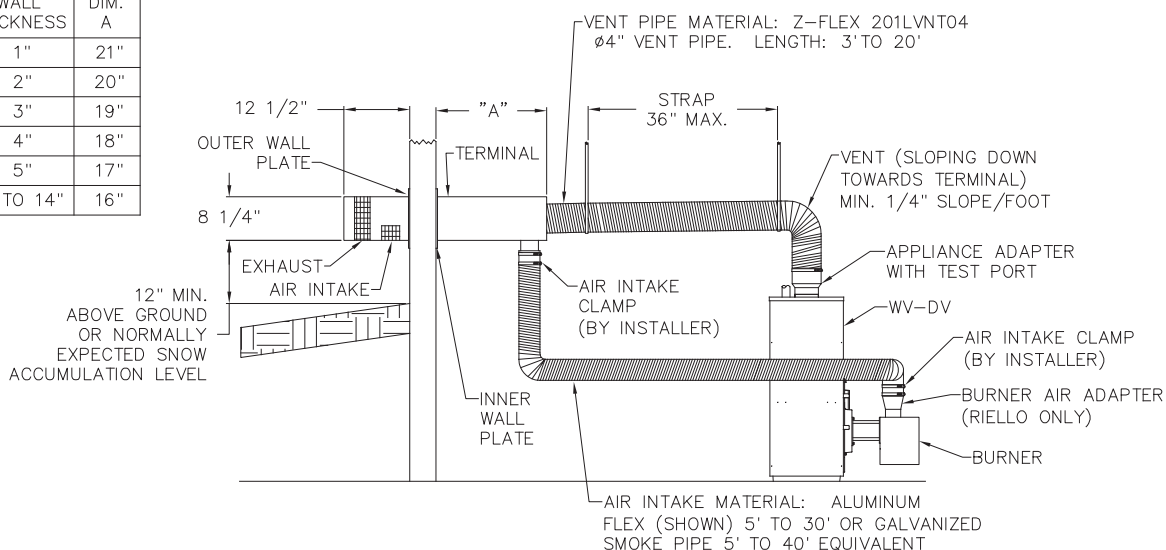

Figure 4.1: Venting
1. Prepare sketches and notes of the layout of the installation. Include boiler location, venting system, existing piping and wiring. Show existing equipment that may interfere with installation of new equipment. See Section 4-A. "Vent System Installation," Page 7, and Figure 4.1.
- a. Vent length must be between 3' and 20' long. See paragraph 4.A.3 and Figure 4.1 for air intake requirements.
- c. Vent terminal extends 12" beyond outside wall surface and at least 16" beyond inside wall surface. See Figure 4.1.
3. For air intake, use 4" diameter galvanized smoke pipe or 4" diameter flexible corrugated aluminum pipe. Maximum equivalent length of galvanized smoke pipe is 40'. Allow 5 equivalent feet for each 90° elbow used. (Example: No more than 20' straight smoke pipe can be used with four 90° elbows.) To connect air intake to Riello BF5 burner, use burner air adapter from trim bag to connect 4" air intake to 3" opening on top of burner. See Figure 4.1.